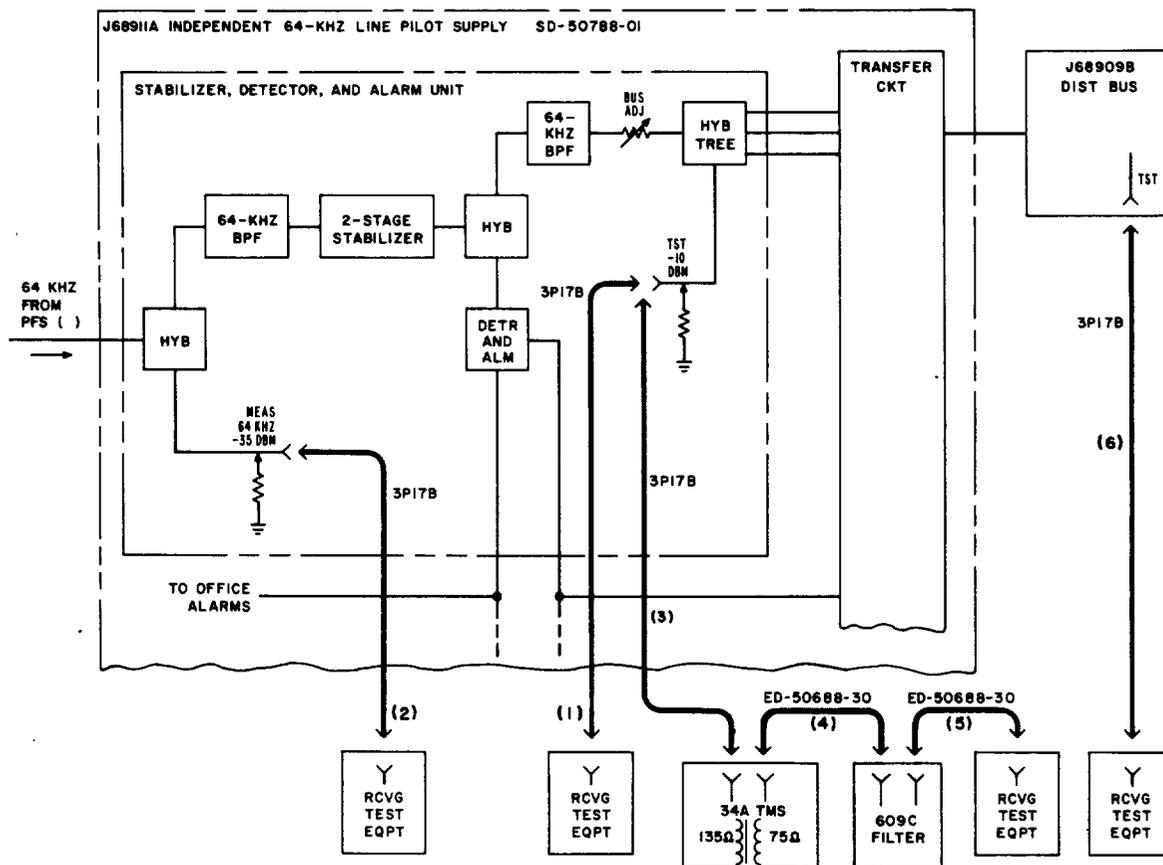

Fig. 4—Independent 64-kHz Pilot Supply and Distribution Bus Test Connections
- 3 Measure the power of the 64-kHz signal at the TST -10 DBM jack on the idle stabilizer [patch (1), Fig. 4].
- 7 Measure the power of the 64-kHz signal at the MEAS 64 KHZ -35 DBM jack on the *idle stabilizer* [patch (2), Fig. 4].
- 2 ♦Remove patch (2) in Fig. 4.
- 4 Make patches (3), (4), and (5) in Fig. 4.
3	Measure the power of the 64-kHz signal at the TST jack on the first J68909B distribution bus [patch (6), Fig. 4].  Requirement: -30.0 dBm $\pm$ 0.1 dB